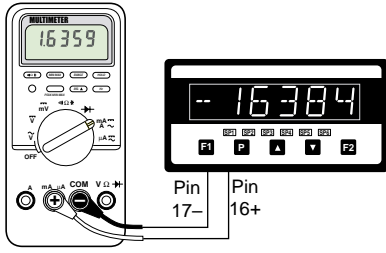

Figure 3 – Multimeter to Meter Connections
- 2) See Figure 3. Connect a multimeter to the analog output connector at the rear of the meter (pin 16-positive, pin 17-negative).